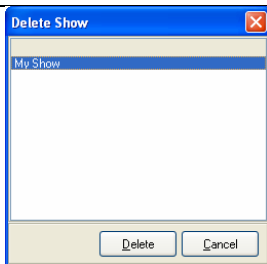

Figure 18: "Delete Show" dialog
1. Open the delete show dialog by clicking on the file menu and selecting “Delete Show”. See Figure 18